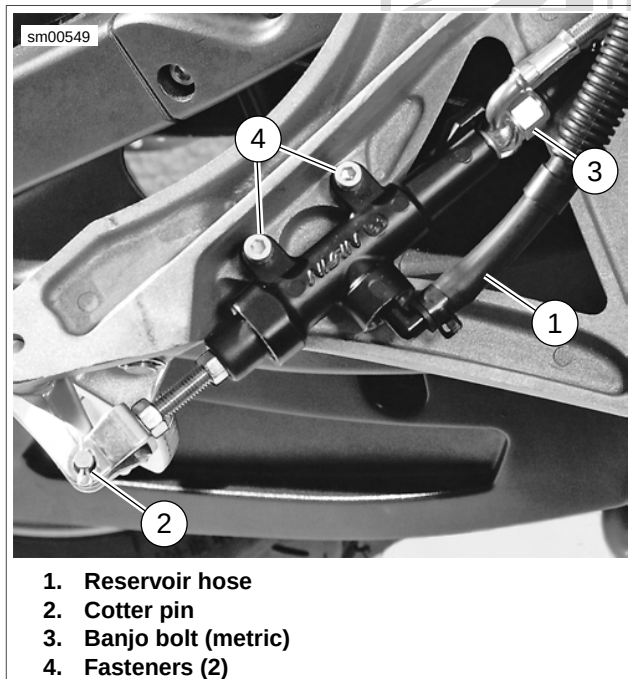

Figure 2-53. Rear Master Cylinder: Ulysses
3. See Figure 2-53. Remove brake reservoir hose (1) at master cylinder.